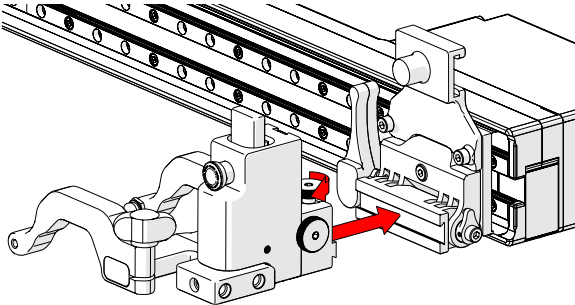

Fig. 170 - Mount probe holder to carrier
1. Loosen the probe holder adjustment knob (*Fig. 170*) and mount the heavy duty vertical probe holder's dovetail jaw to the carrier.